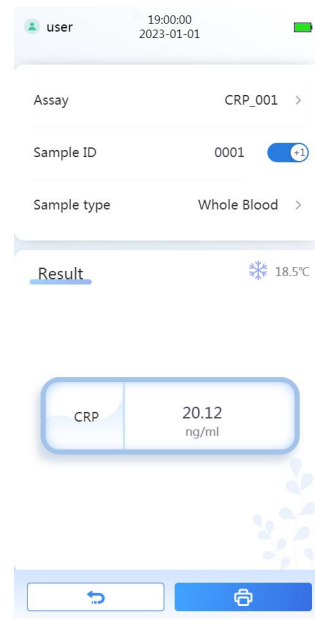

Figure 8 Testing results
- Click the Print button  to print the results when the test is complete (Figure 8 below).